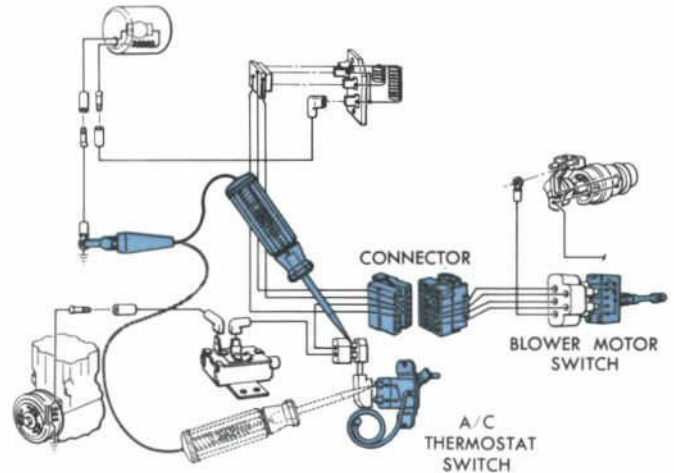

Fig. 16 — Testing Thermostatic Switch
4. To test the thermostatic switch, move the probe to its input terminal (Fig. 16). If the light burns now but didn't before, the thermostatic switch isn't functioning and should be inspected and tested.